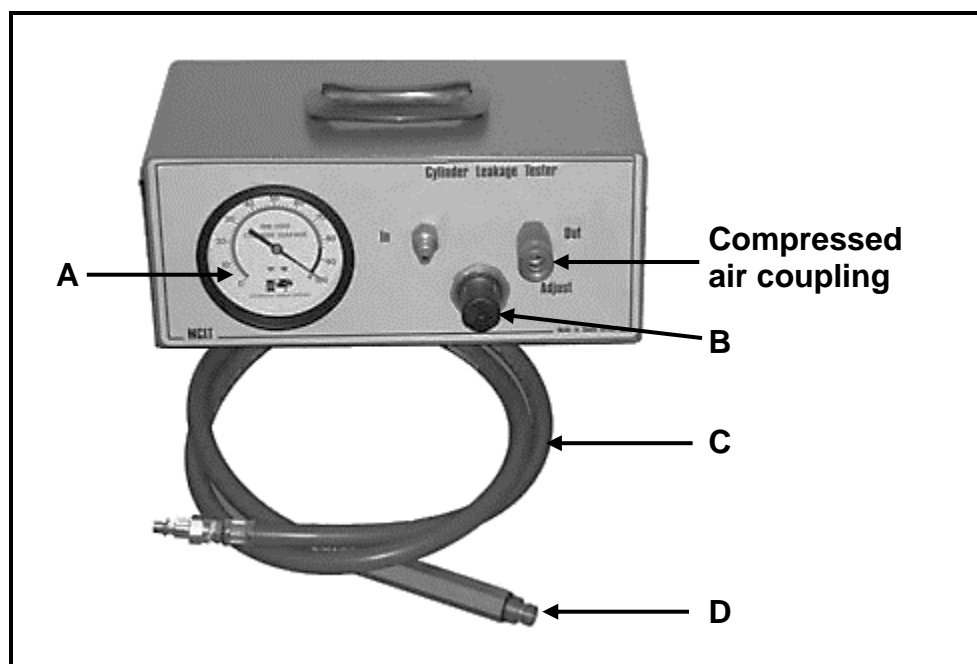

FIGURE 5.2
STEP 5 5.1.1 (1)
STEP 6 5.1.2 (1)
STEP 7 5.1.3 (1)
STEP 8 5.1.4 (1)
- 5.2 Answer the questions related to the cylinder leakage tester shown in FIGURE 5.2 below.
5.2.1 Label parts **A–D** in FIGURE 5.2 above. (4)